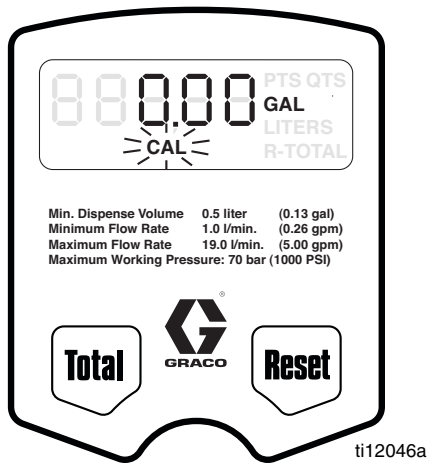

FIG. 13
- c. Press and hold Reset button again to display Calibration Menu. When this menu is displayed CAL blinks on the screen (FIG. 13).
## Calibration (Fig. 13)